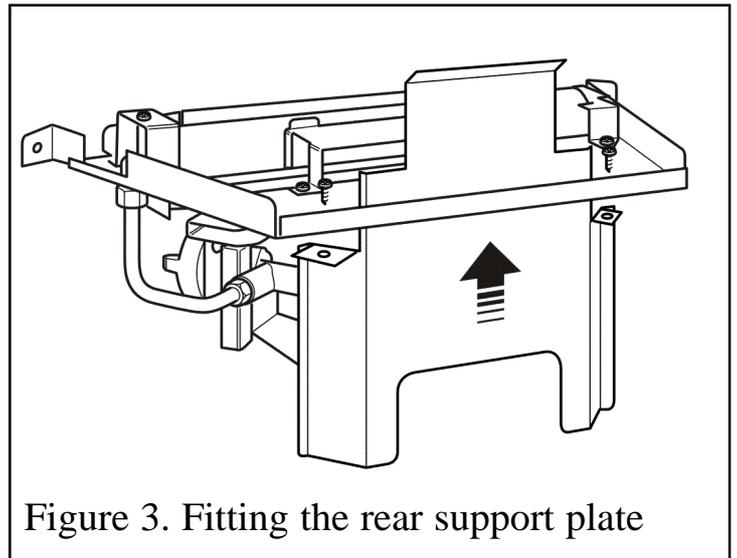

Figure 3. Fitting the rear support plate
- Prior to installation of the burner the rear support plate must be fitted (See figure 3). Two self-tapping screws retain the plate.